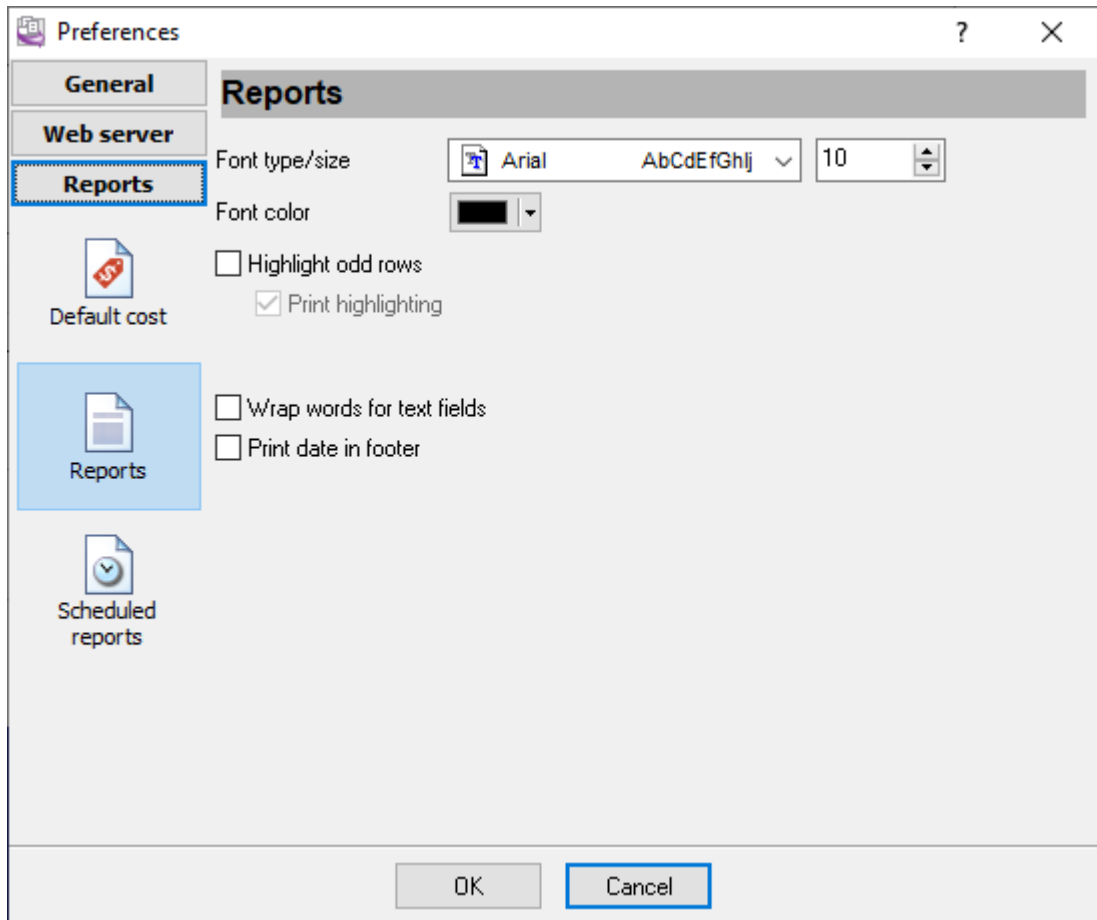

Fig. 39 Report page
2. Change the font that is used in the report and its size. To do it, select "Options - Additional..." and specify the necessary parameters in the new dialog box (fig. 39).